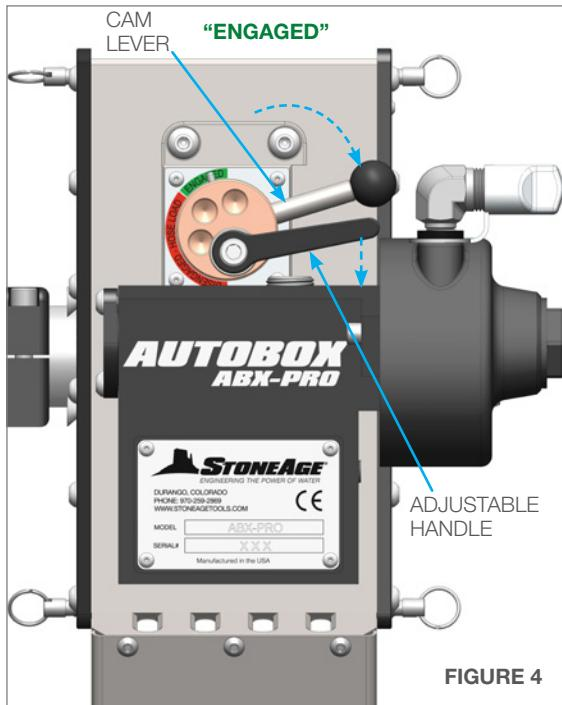

FIGURE 4
4. Rotate the Cam Lever clockwise to the **“Engaged”** position to tighten the Idler Roller down onto the hose. Push the Adjustable Handle down to tighten the bushing assembly. (**Figure 4**)
4. Loosen the two screws on the collet cap block and slide the BOP 030 Collet Block Assembly onto the BOP 084 Threaded Snout Tube. Push the Collet Block until it stops on the Snout Tube, then tighten the two screws securely. (**Figure 4**)